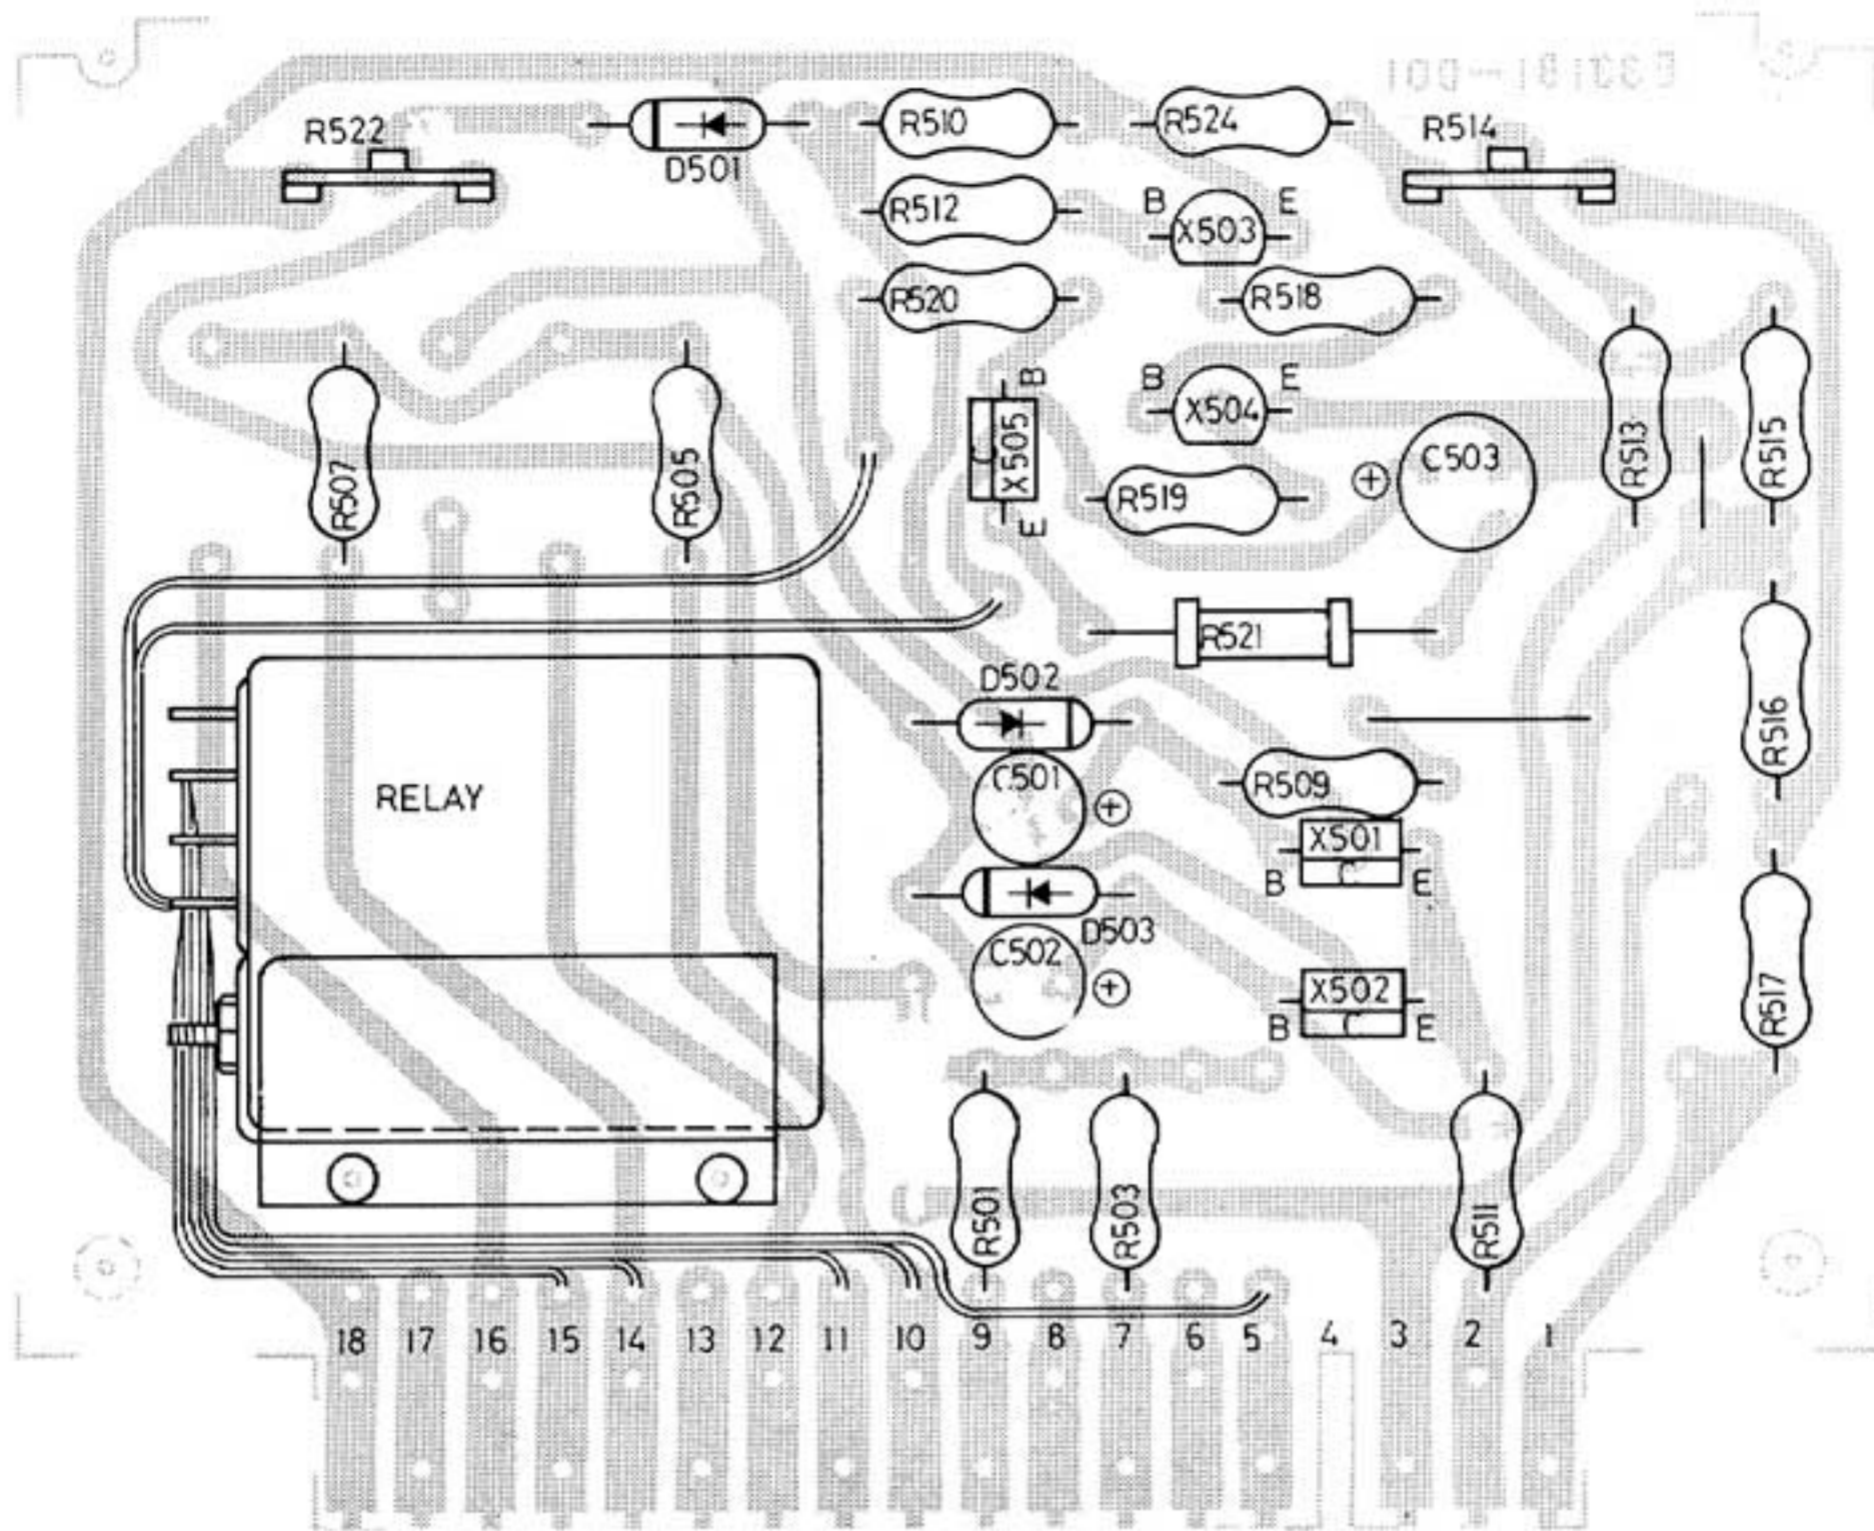

Fig. 14
**WIRE CONNECTION** (Fig. 14, 15)